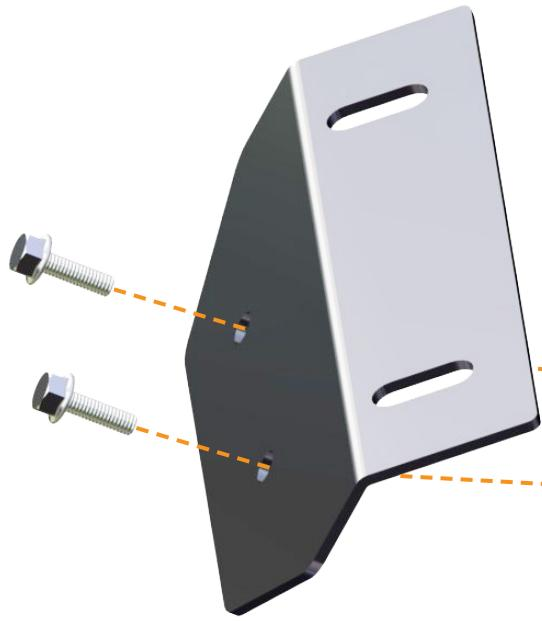

Fig.4a
4. Next you can **Install** the **Front Bash Plate** onto the machine. Install the front two (2) bolts using the **M6x20 Hex Flanged Bolts** provided in your kit. Install them but do not tightend them down yet. See **Fig.4a-b**.